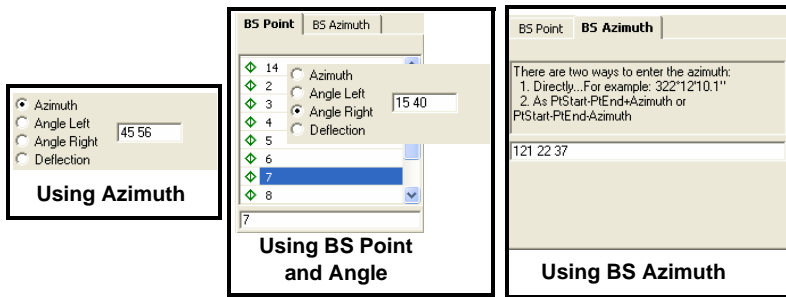

Figure 9-78. Select and Enter Direction to Traverse Point
3. Click **Calculate**. A new point is created and its coordinates calculated (Figure 9-78 on page 9-62). The *Point* tab and *Map View* display this point with a unique default name (cogo, cogo(2), etc.).
4. Enter the direction to the traverse point using one of the following methods (Figure 9-78 on page 9-62):